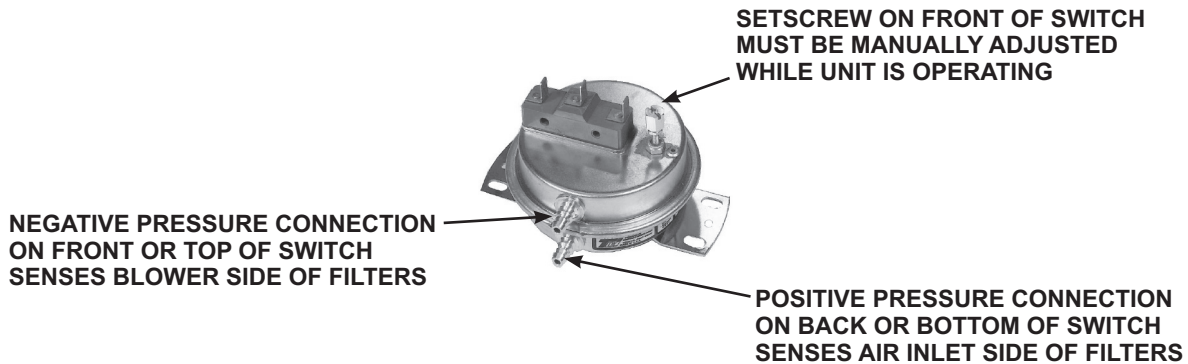

Figure 46. Dirty Filter Switch
- With clean filters in place, blower doors closed, and blower operating, decrease pressure setting by adjusting setscrew on switch (see **Figure 46**) clockwise until indicator light is energized or setscrew is bottomed out.